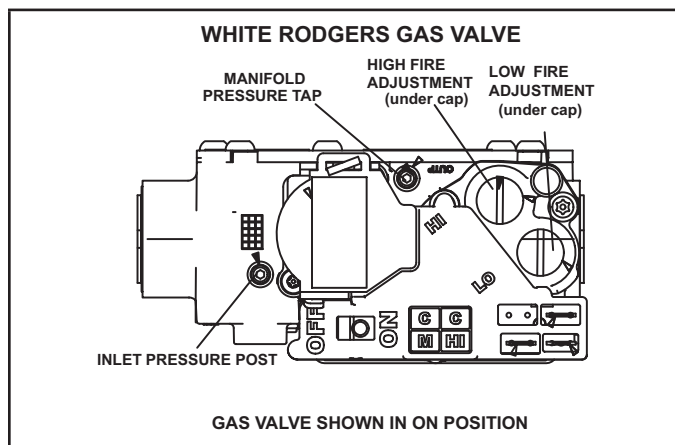

FIGURE 65
### Gas Valve Operation (FIGURE 65)
- 6 - Move gas valve switch to **OFF**. See FIGURE 65.
- 8 - Move gas valve switch to **ON**. See FIGURE 65
An inlet post located on the gas valve provides access to the supply pressure. See FIGURE 65. Back out the 3/32 hex screw one turn, connect a piece of 5/16 tubing and connect to a manometer to measure supply pressure. See TABLE 22 for supply line pressure.
A manifold pressure post located on the gas valve provides access to the manifold pressure. See FIGURE 65. Back out the 3/32 hex screw one turn, connect a piece of 5/16 tubing and connect to a manometer to measure manifold pressure.
- 5 - If necessary, make adjustments. FIGURE 65 shows location of high fire and low fire adjustment screws.